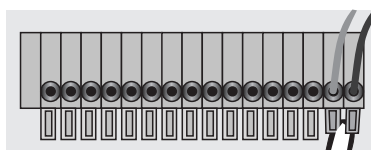

Figure 2
- 2 .insert the cables to the interface. (Figure 2).